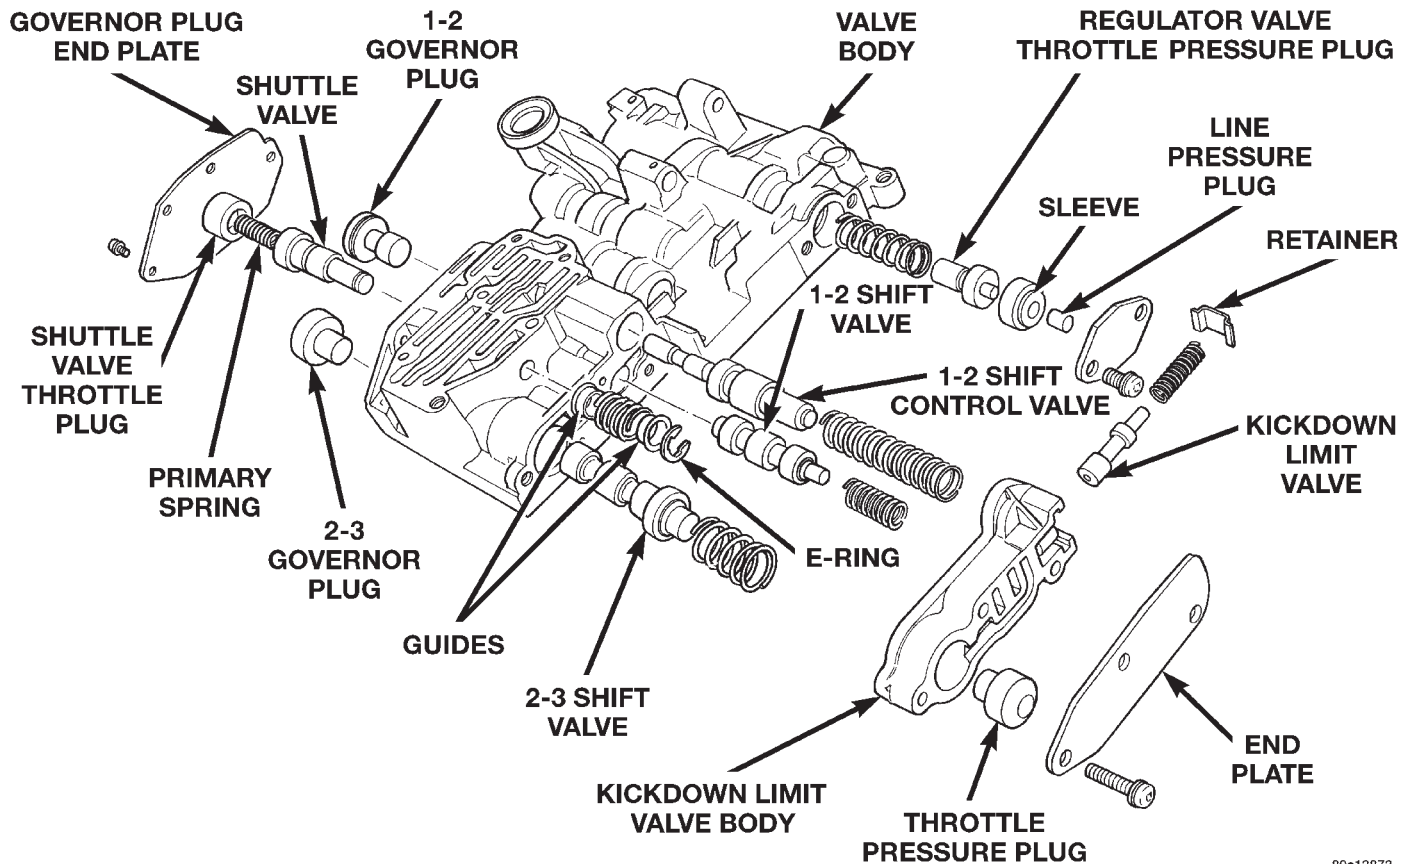

Fig. 53 Control Valves, Shift Valves, And Governor Plugs
- (23) Remove governor plug end plate (Fig. 53).
- (24) Remove 1-2 and 2-3 shift valve governor plugs from valve body (Fig. 53).
- (25) Remove shuttle valve throttle plug, primary spring and shuttle valve from valve body (Fig. 53).
- (26) Remove screws attaching kickdown limit valve body to valve body (Fig. 53).
- (27) Remove 1-2 shift control valve and spring from valve body (Fig. 53).
- (28) Remove 2-3 shift valve and spring from valve body (Fig. 53).
- (29) Remove 1-2 shift valve and spring from valve body (Fig. 53).
- (30) Remove throttle pressure plug from kickdown limit valve body (Fig. 53).
- (31) Remove retainer from end of kickdown limit valve body (Fig. 53).
- (32) Remove kickdown limit valve and spring from kickdown limit valve body (Fig. 53).
- (33) Remove regulator valve end plate from valve body (Fig. 53).
- (34) Remove regulator valve line pressure plug, pressure plug sleeve, regulator valve throttle pressure plug and spring (Fig. 53).
- (1) Lubricate valve body bores, valves and plugs with Mopar® ATF Plus 3, Type 7176, transmission fluid.
- (2) Install regulator valve line pressure plug, pressure plug sleeve, regulator valve throttle pressure plug, and spring into valve body (Fig. 53). Verify valve components slide freely.
- (3) Install regulator valve end plate on valve body (Fig. 53).
- (4) Install kickdown limit valve and spring in kickdown limit valve body (Fig. 53). Verify valve components slide freely.
- (5) Compress spring into kickdown limit valve body.
- (6) Install retainer in grooves at end of kickdown limit valve body (Fig. 53).
- (7) Install throttle pressure plug in kickdown limit valve body (Fig. 53).
- (8) Install 1-2 shift valve and spring into valve body (Fig. 53).
- (9) Install 2-3 shift valve and spring into valve body (Fig. 53).
- (10) Install 1-2 shift control valve and spring into valve body (Fig. 53).
- (11) Verify valve components slide freely.
- (12) Place kickdown limit valve body and end plate in position on valve body and compress springs (Fig. 53).
- (13) Install screws to attach kickdown limit valve body to valve body (Fig. 53).
- (14) Install shuttle valve throttle plug, primary spring and shuttle valve into valve body (Fig. 53). Verify valve components slide freely.
- (15) Install 1-2 and 2-3 shift valve governor plugs into valve body (Fig. 53). Verify valve components slide freely.
- (16) Place governor plug end plate in position on valve body and compress spring.
- (17) Install screws to attach governor plug end plate to valve body (Fig. 53).
- (18) Assemble shuttle valve spring and guides (Fig. 53). Place spring and guides in position on shuttle valve stem.